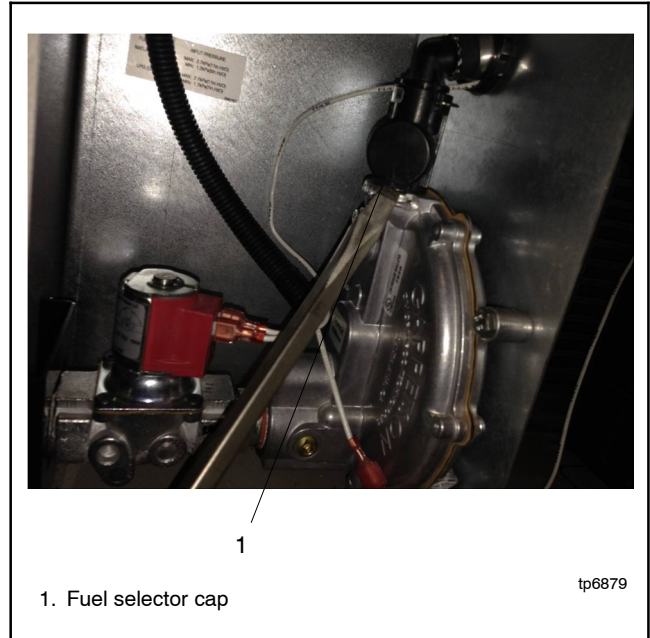

Figure 1-13 Cap Removal
6. Remove the cap from the fuel selector valve. See Figure 1-13. Insert a flat head screwdriver under